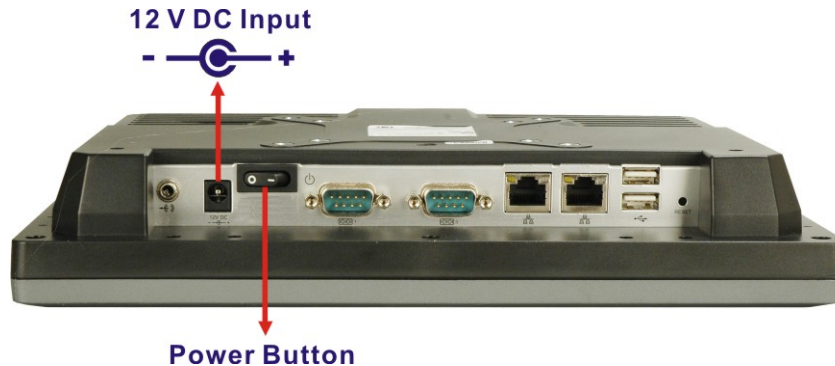

Figure 3-26: Power Connector and Power Button
- Step 2:** Push the power button. See **Figure 3-26**